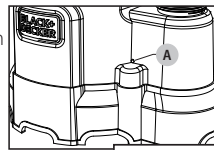

Figure 3
- This pump is equipped with an anti-airlock hole. A stream of water will emit from this hole when the pump is operating. This is a normal feature of this pump. When a pump airlocks, it runs but does not move any water. An airlock will cause the pump to overheat and fail. If you suspect an airlock, unplug the pump, clean out the anti-airlock hole with a paper clip or piece of wire and restart the pump. See figure 3.